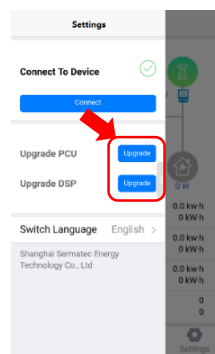
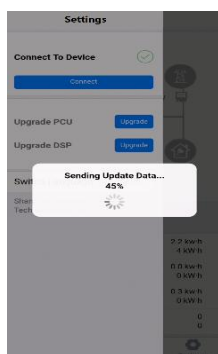
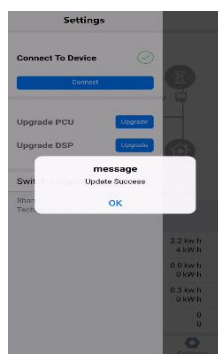

Figure 4-9
Figure 4-10
Figure 4-11
4.Tap "Upgrade" .The software will be upgraded. ( Figure 4-9, Figure 4-10, Figure 4-11)